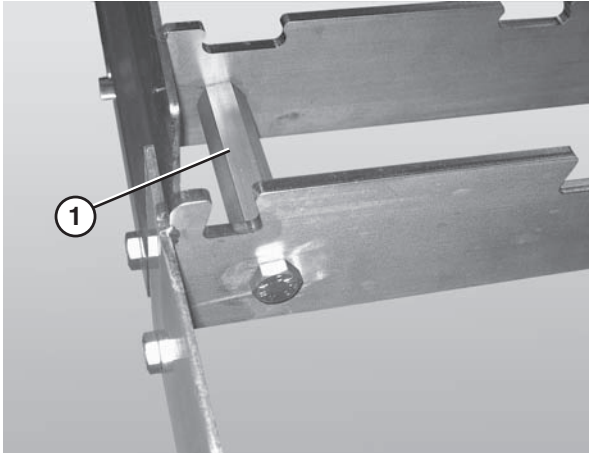

Figure 6
3. Connect the frame sections by bolting the hex post connectors (Figure 6, item 1) between frame sections. Be sure O-rings are seated properly on hex post and hex screws prior to tightening of screws to avoid damage to O-rings.